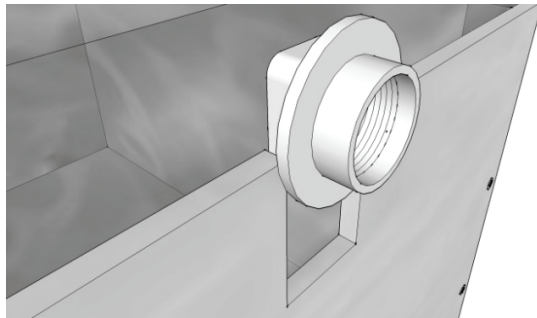

Fig. 5 - Liner fittings slide into Part B notches so that when seated, the fittings will not turn.
- a. **Slide** both liner fittings into notches of remaining panel (B) so the square of the fitting matches the 2 1/2" wide square notch and locks into place. (fig. 5, part B)